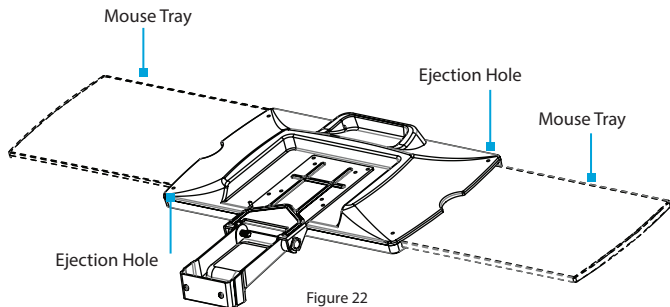

Figure 22
3. Insert a **Pin** into one of the two **Ejection Holes**, located on the underside of the **Keyboard Tray**, and pull the corresponding **Extension** off the **Keyboard Tray**. (Figure 22)